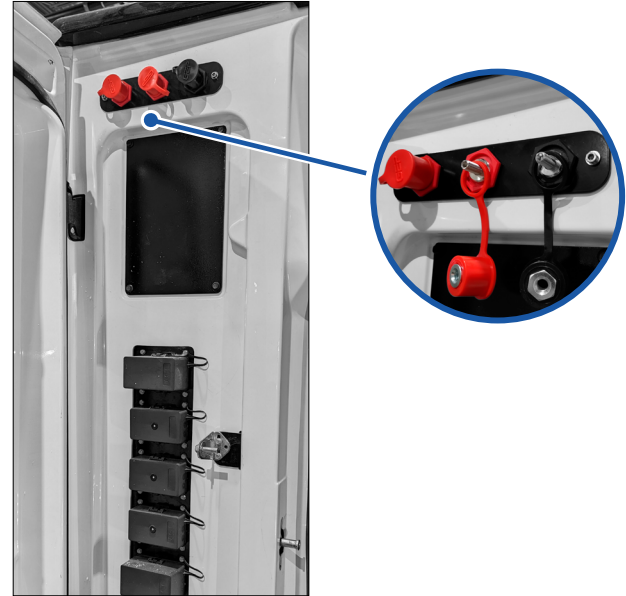

Figure 3 - Accessory compartment low-voltage remote battery posts (if equipped)
- If need be, an auxiliary 24 V supply can be applied to the two electrical terminals (optional equipment) located at the top of the accessory compartment (**Figure 3**) on the passenger side of the truck.
3. Turn on the vehicle and set the vehicle ride height to **<< Normal >>** or **<< High >>** using the suspension height control switches (see section on Hydraulic Suspension). Provide an auxiliary 24 V supply if need be (**Figure 3**).